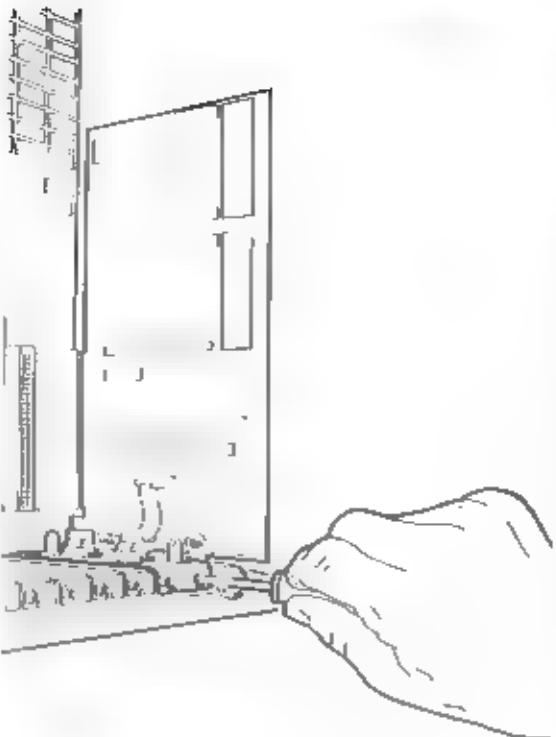

Figure 2-7 Removing the Metal Slot Cover
1. Using a Phillips screwdriver, unscrew and remove the metal slot cover for the desired location on the system unit connector panel as illustrated in Figure 2-7.